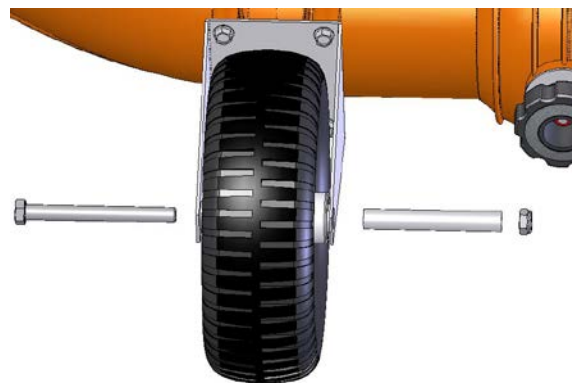

Fig. 2
2. Attach the front tire using the hardware located on the front wheel bracket. Use a block to raise the front end of the unit off the ground. Insert the wheel spacer (item #17) into the wheel and place in between the bracket. Finally insert the bolt (item #20) through the bracket, wheel, and spacer and secure with the nut (item #27). (See Fig. 2)